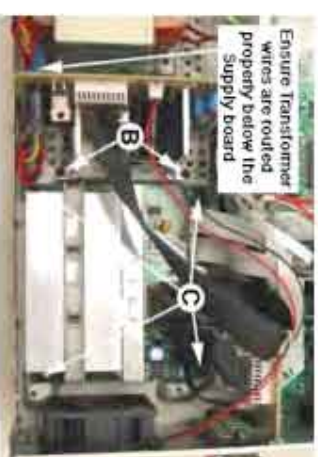

Figure 6
- 1) Loosen 2 screws B mounting the Supply board's (pos 1102-B) heatsink to the Bottom Plate (pos 227) as per figure 6.
- 2) Loosen 4 screws C to dismantle the Power Amplifier board (pos 1102-D) from the Bottom Plate as per figure 6.